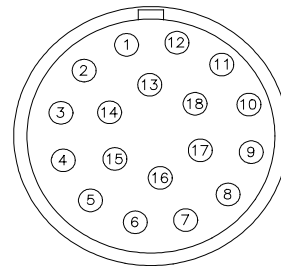

Figure 1. 18-pin Lemo Connector
5. Refer to **Figure 1** to locate pin one of the Lemo connector.
Note: Figure 1, and all measurements for this procedure, refers to the female connector of the Lemo connector. Make all measurements by measuring into the system probe, not into the cabinet or cable.